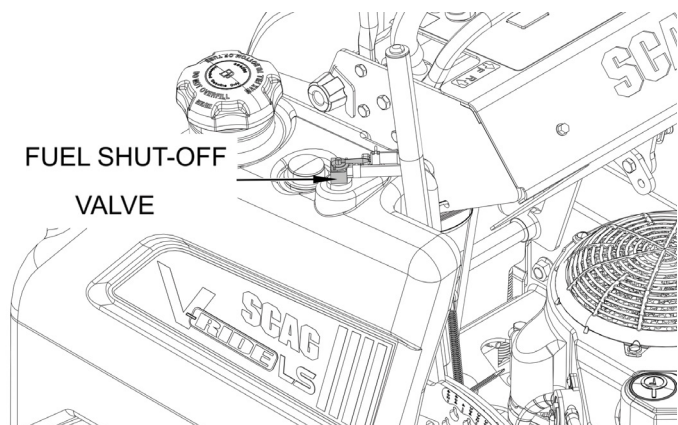

Figure 4-3. Fuel Valve Location
1. Ensure the fuel shut-off valve, located on top of the fuel tank, is completely open. See Figure 4-3.